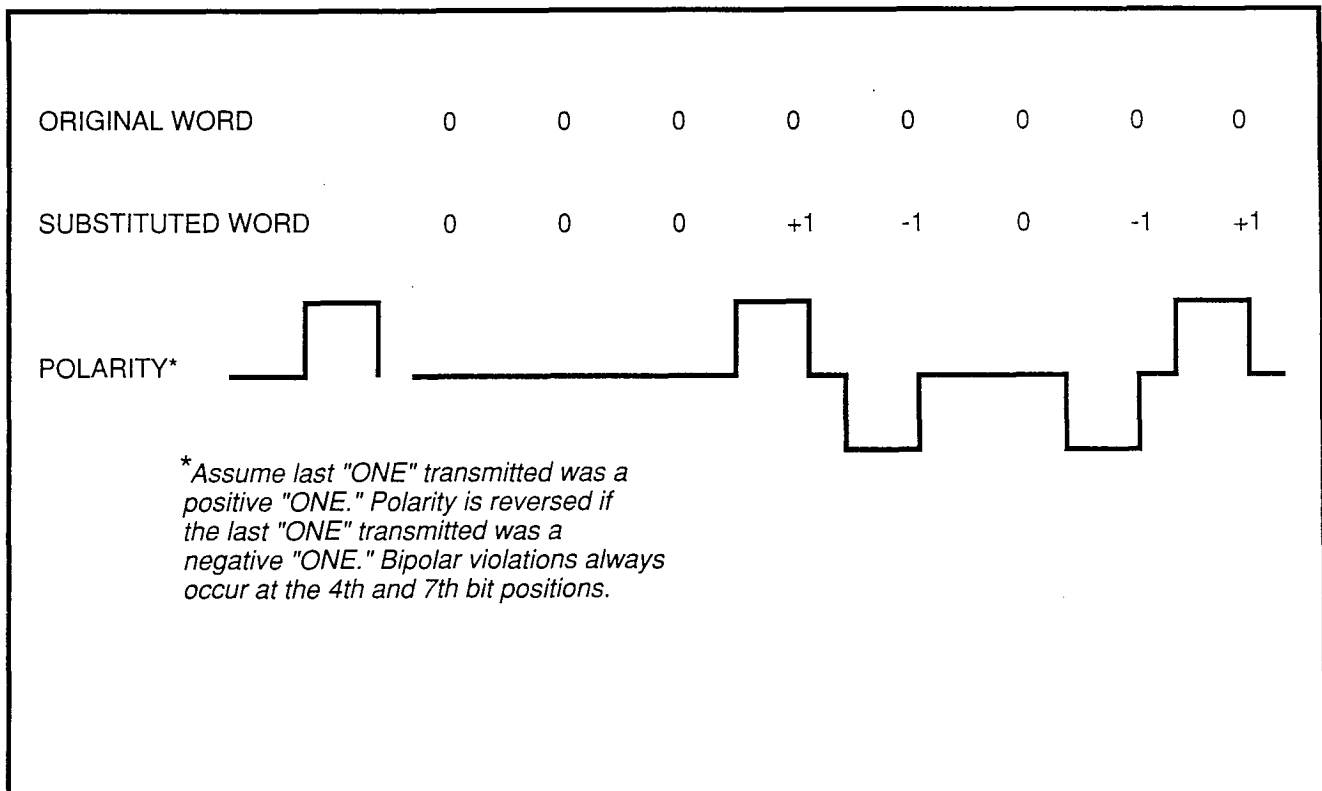

FIGURE 3—SAMPLE OF B8ZS CODE
- 2) **Bipolar Eight Zero Substitution (B8ZS):** This technique provides a unique algorithm. Whenever a time slot contains eight consecutive "ZEROS," the "ZEROS" are replaced by an 8-bit code (00011011). The bipolar violation occurs in the fourth and the seventh bit positions of the inserted code. The receiving end recognizes this code, and it translates it into all "ZEROS" (see Figure 3).